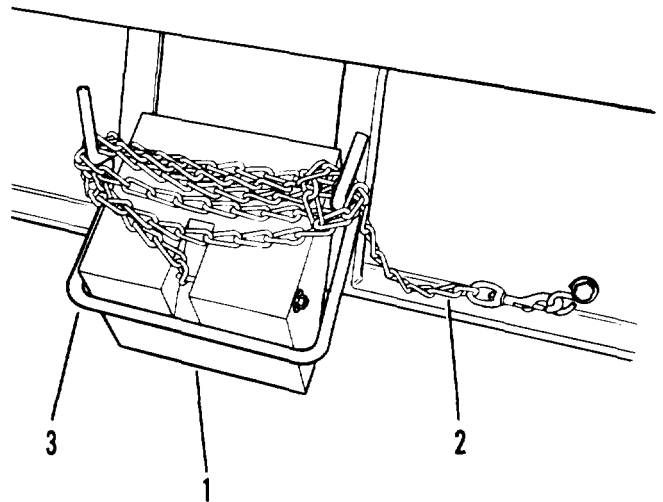

Figure 2-10. Chock block
- a. One chock block (1, figure 2-10) located on each side of semitrailer.
- b. Depending upon the terrain, place chock blocks (1) firmly behind or forward of wheels on each side of semitrailer.
- d. Chain (2) holds chock block (1) to semitrailer to keep it from being lost.
- e. Stowage bracket (3) stows chock block (1) when not in use.